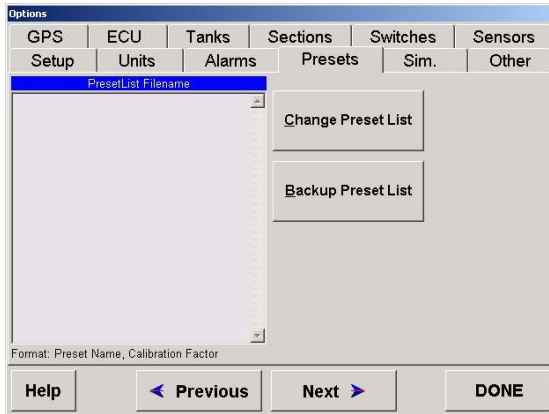

Figure 8-21. Options>Presets Page
1. Select **Change Preset List** (Figure 8-21)
1. Select **Backup Preset List** (Figure 8-21 on page 8-62)